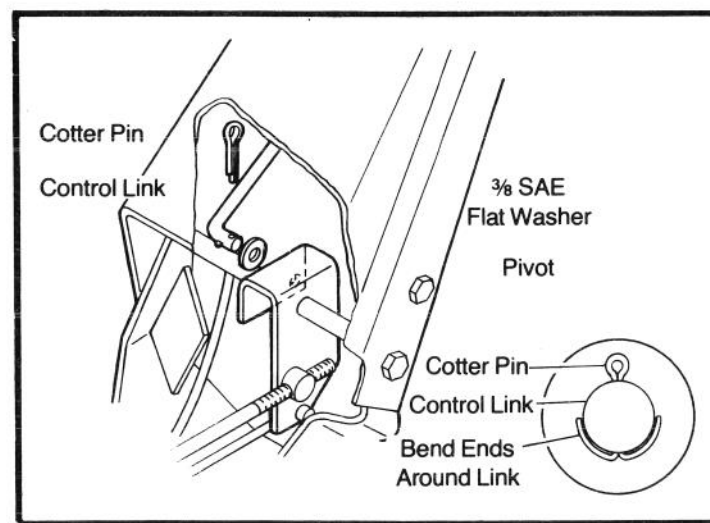

FIGURE 4
- A. Slide $\frac{3}{8}$ SAE flat washer* onto end of control link, Fig. 4.